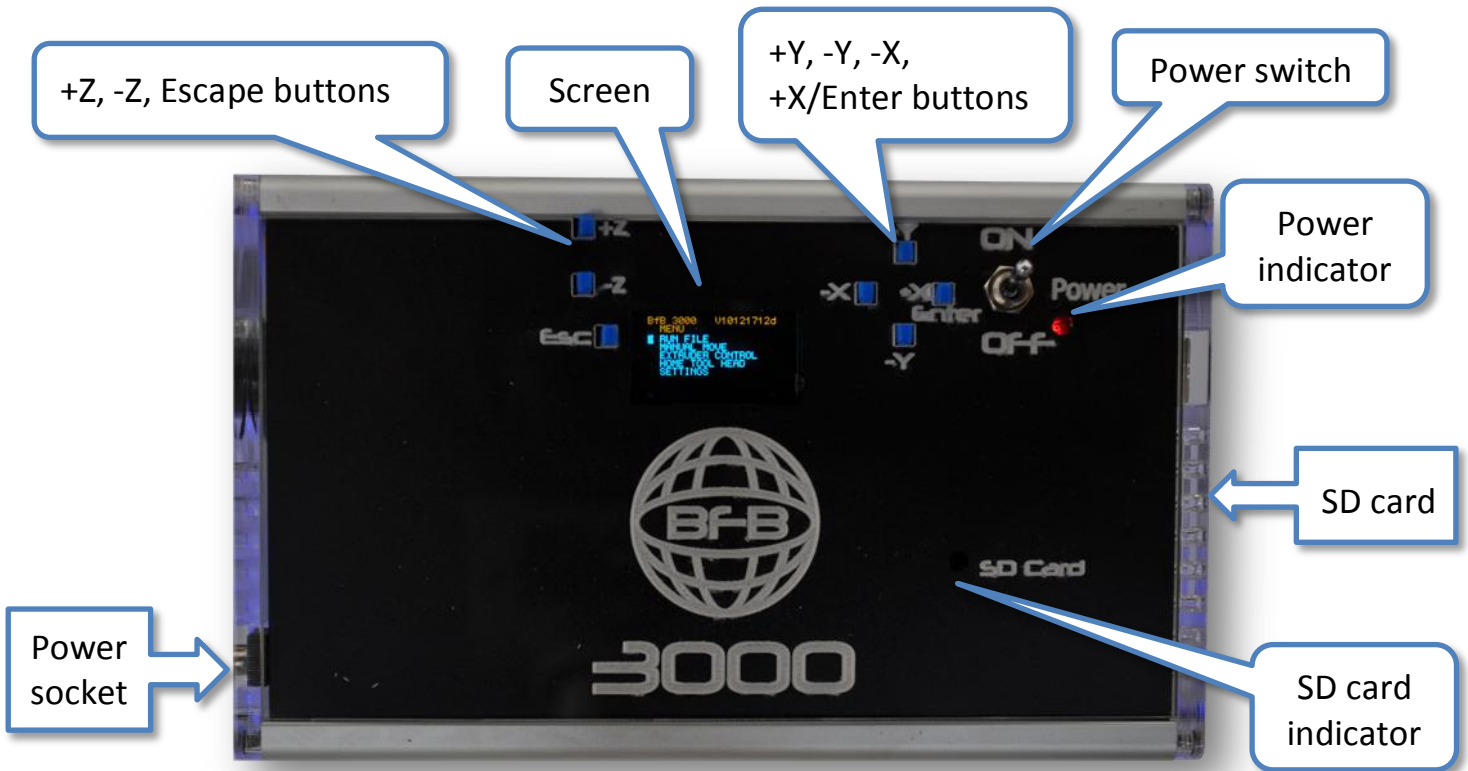

Figure 1: Control panel
- Connect the power supply from the control panel into the power socket shown in Figure 1. Turn the supply on. Turn the control box on using the power switch shown in Figure 1.